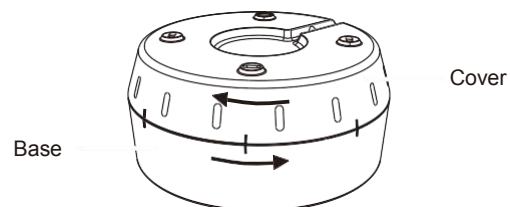

Figure 1
1. Unscrew the cover of the loudspeaker in a counterclockwise direction (As show in figure 1), Connect the audio broadcasting cable, and select the proper terminal for connection according to the actual power needs (Please see the table below for details).